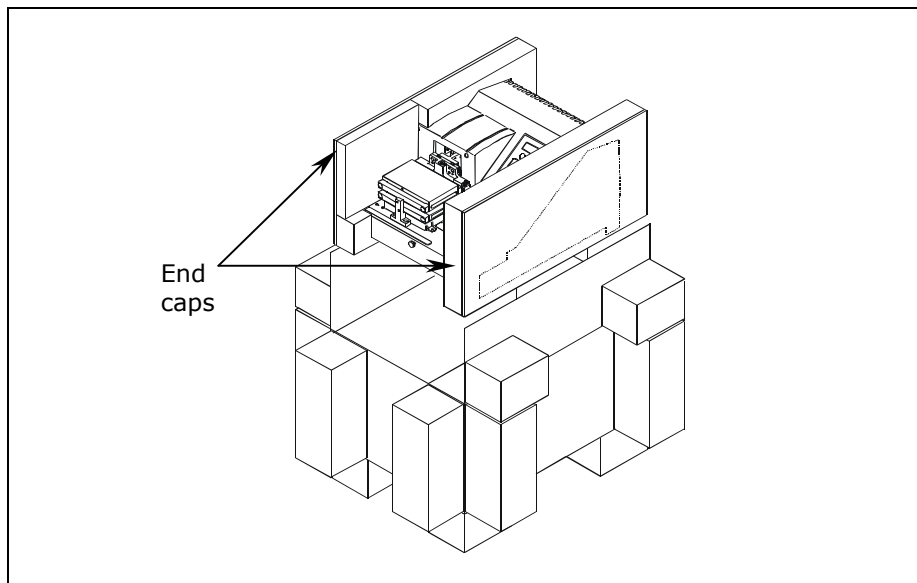

Figure 4: Removing the End Caps
6. Remove the left and right end caps and the plastic bag (**Figure 4**).